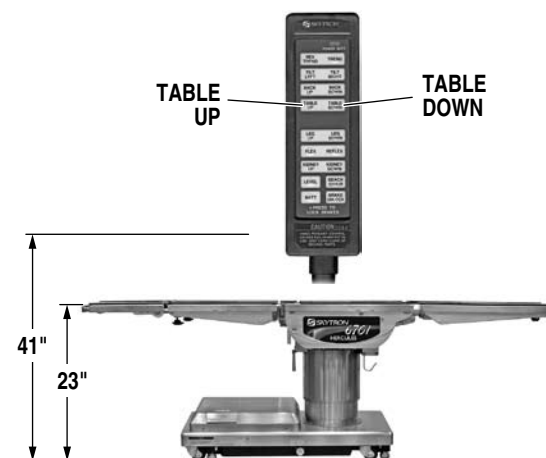

Figure 2-9. Elevation Function
e. Elevation. To raise table top, press the TABLE UP button (figure 2-9). The table will lift a patient weight of 1,200 pounds up to a maximum height of 41" (45" with X-Ray top and 2" pad). To lower the table top, press the TABLE DOWN button. The table top will go down to a minimum height of 23".